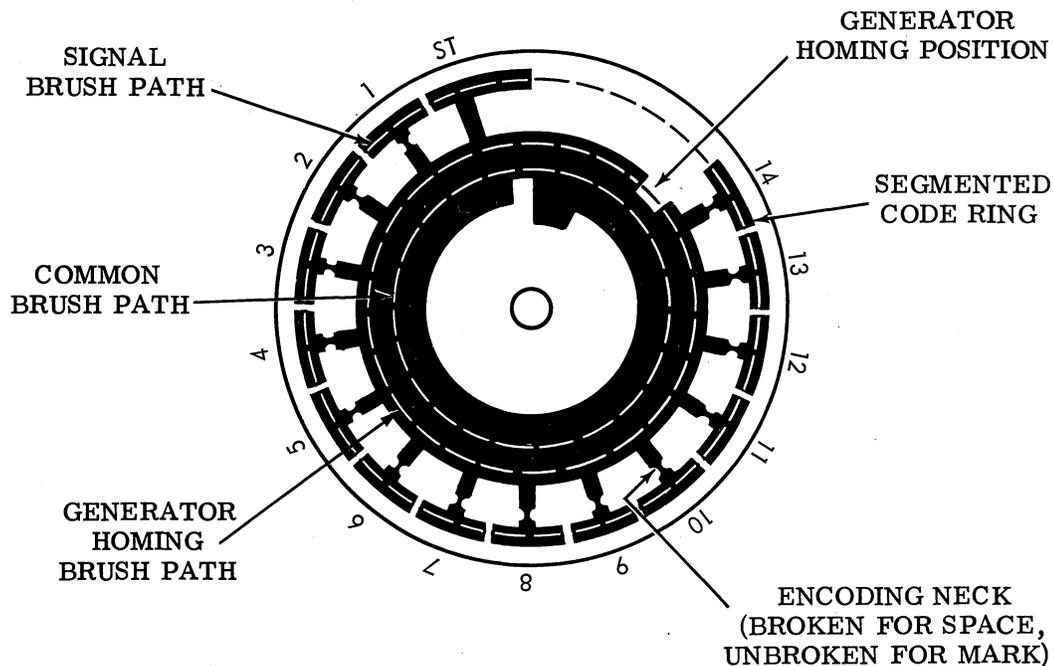

Figure 1 - Generator Code Disc and Brush Paths
2.20 The three active brushes include the common brush, signal brush, and generator homing brush. The code disc (Figure 1) consists of a solid inner ring with cutout, a segmented outer ring, and spokes connecting the solid inner ring with each segment of the outer ring. The common brush wipes the solid portion of the inner ring to provide the -12 volt potential for the other brush paths.